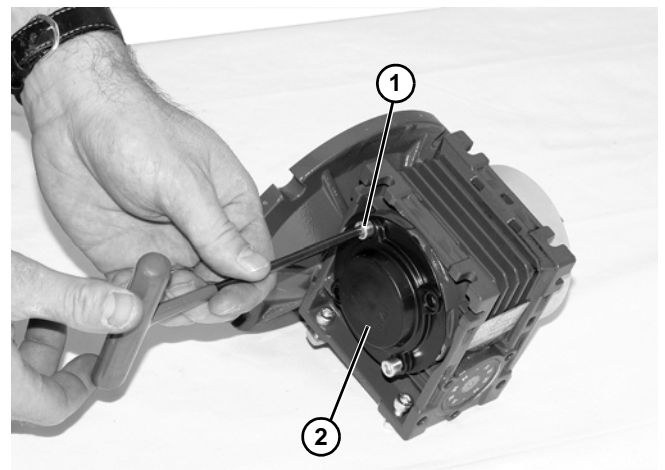

Figure 29
8. Remove two (2) screws (**Figure 29, item 1**) and detach output shaft cover (**Figure 29, item 2**).